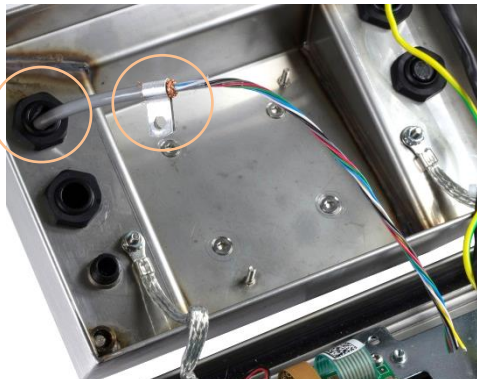

Figure 2-27: Load Cell Cable Entering IND236 Enclosure, with Chassis Ground Clip
1. The load cell cable is routed into the enclosure through the cable gland indicated in Figure 2-27.